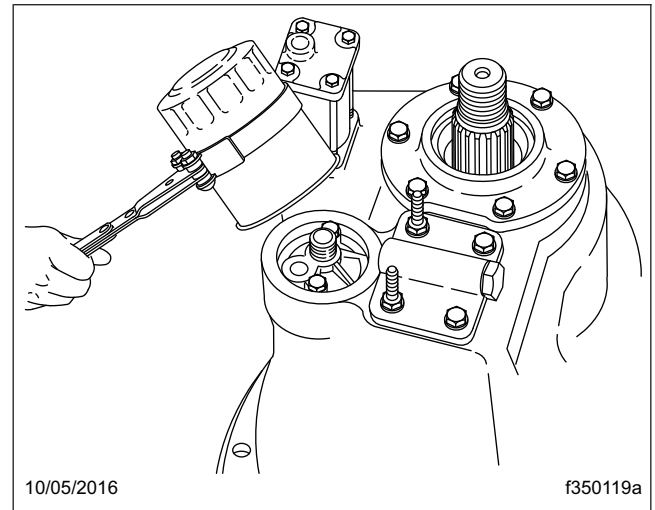

Fig. 3, Meritor Axle Oil Filter Removal
3. If equipped with an oil pump, remove the axle oil filter. Use a suitable filter strap wrench; see **Fig. 3**. Discard the old filter.